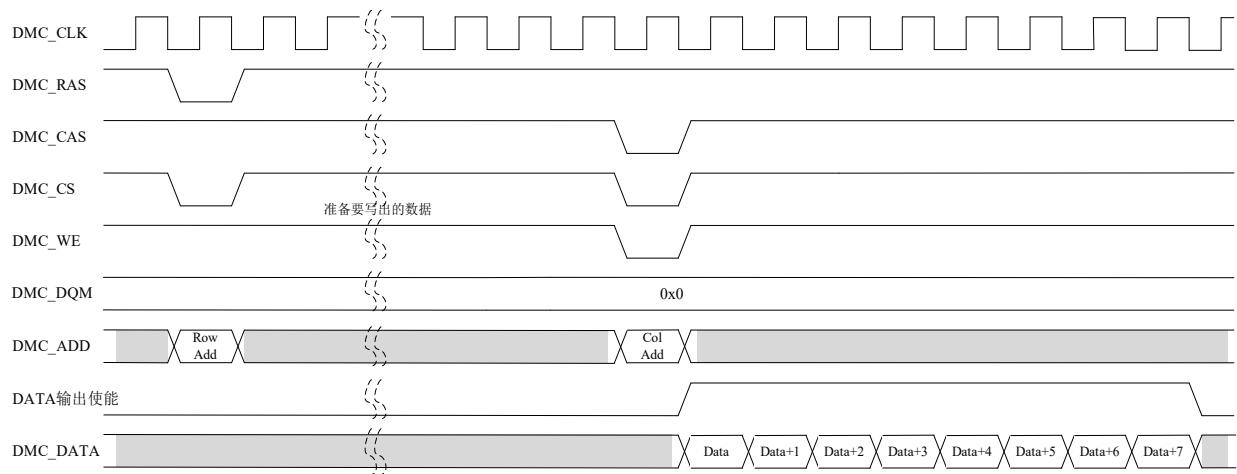

Figure 40-33 Burst write operation basic timing (32-bit width (DMCMW=10) & BURST=011)
d) Figure 40-33 is the basic timing diagram of burst write operation.